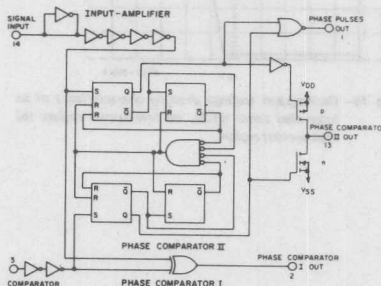
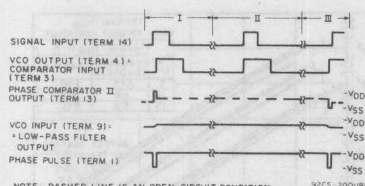
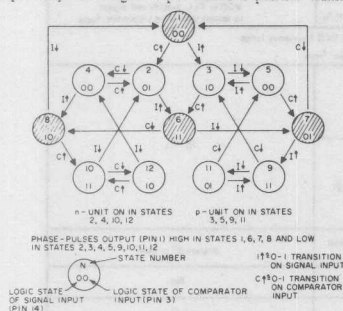

Fig. 3—Schematic of COS/MOS PLL phase-comparator section.
Fig. 6 - Typical waveforms for COS/MOS phase-locked loop employing phase-comparator II in locked condition.
Fig. 7 - State diagram of phase-comparator II.
Most PLL systems utilize a balanced mixer composed of well-controlled analog amplifiers for the phase-comparator section. Analog amplifiers with well-controlled gain characteristics cannot easily be realized using COS/MOS technology. Hence, the COS/MOS design shown in Fig. 3 employs digital-type phase comparators. Both phase comparators are driven by a common-input amplifier configuration composed of a bias stage and four inverting-amplifier stages. The phase-comparator signal input (terminal 14) can be direct-coupled provided the signal swing is within COS/MOS logic levels [logic 0 < 30% (VDD-VSS), logic 1 > 70% (VDD-VSS)]. For smaller input signal swings, the signal must be capacitively coupled to the self-biasing amplifier at the signal input to insure an over-driven digital signal into the phase comparators.
Phase-comparator II is an edge-controlled digital memory network. It consists of four flip-flop stages, control gating, and a three-state output circuit comprising p and n drivers having a common output node as shown in Fig. 3. When the p-MOS or n-MOS drivers are ON, they pull the output up to V_{DD} or down to V_{SS} , respectively. This type of phase comparator acts only on the positive edges of the signal and comparator-input signals. The duty cycles of the signal and comparator inputs are not important since positive transitions control the PLL system utilizing this type of comparator. If the signal-input frequency is higher than the comparator-input frequency, the p-MOS output driver is maintained ON continuously. If the signal-input frequency is lower than the comparator-input frequency, the n-MOS output driver is maintained ON continuously. If the signal and comparator-input frequencies are the same, but the signal input lags the comparator input in phase, the n-MOS output driver is maintained ON for a time corresponding to the phase difference. If the signal- and comparator-input frequencies are the same, but the signal input leads the comparator input in phase, the p-MOS output driver is maintained ON for time corresponding to the phase difference. Subsequently, the capacitor voltage of the low-pass filter connected to this type of phase comparator is adjusted until the signal and comparator input are equal in both phase and frequency. At this stable operating point, both p- and n-MOS output drivers remain OFF, and thus the phase-comparator output becomes an open circuit and holds the voltage on the capacitor of the low-pass filter constant. Moreover, the signal at the "phase pulses" output is at a high level, and can be used for indicating a locked condition. Thus, for phase-comparator II, no phase difference exists between signal and comparator input over the full VCO frequency range. Moreover, the power dissipation due to the low-pass filter is reduced when this type of phase comparator is used because both the p- and n-MOS output drivers are OFF for most of the signal-input cycle. It should be noted that the PLL lock range for this type of phase comparator is equal to the capture range, independent of the low-pass filter. With no signal present at the signal input, the VCO is adjusted to its lowest frequency for phase-comparator II. Fig. 6 shows typical waveforms for a COS/MOS PLL employing phase-comparator II in a locked condition.
Fig. 7 shows the state diagram for phase-comparator II; each circle represents a state of the comparator. The number at the top inside each circle represents the state of the comparator, while the logic state of the signal and comparator inputs, represented by a 0 or a 1, are given by the left and right numbers, respectively, at the bottom of each circle. The transitions from one state to another result from either a logic change on the signal input (I) or the comparator input (C). A positive transition and a negative transition are shown by an arrow pointing up or down, respectively. The state diagram assumes that only one transition on either the signal input or the comparator input occurs at any instant. States 3, 5, 9, and 11 represent the condition at the output of phase-comparator II when the p-MOS driver is ON, while states 2, 4, 10, and 12 determine the condition when the n-MOS driver is ON. States 1, 6, 7, and 8 represent the condition when the output of phase-comparator II is in its high impedance state; i.e., both p- and n-devices are OFF, and the phase-pulses output (terminal 1) is high. The condition at the phase-pulses output for all other states is low.
As an example of how one may use the state diagram shown in Fig. 7, consider the operation of phase-comparator II in the locked condition shown in Fig. 6. The waveforms shown in Fig. 6 are broken up into three sections: section I corresponds to the condition in which the signal input leads the comparator input in phase, while section II corresponds to a finite phase difference. Section III depicts the condition when the comparator input leads the signal input in phase. These three sections all correspond to a locked condition for the COS/MOS PLL; i.e., both signal- and comparator-input signals are of the same frequency but differ slightly in phase. Assume that both the signal inputs begin in the 0 state, and that phase-comparator II is initially in its high-impedance output condition (state 1), as shown in Figs. 7 and 6, respectively. The signal input makes a positive transition